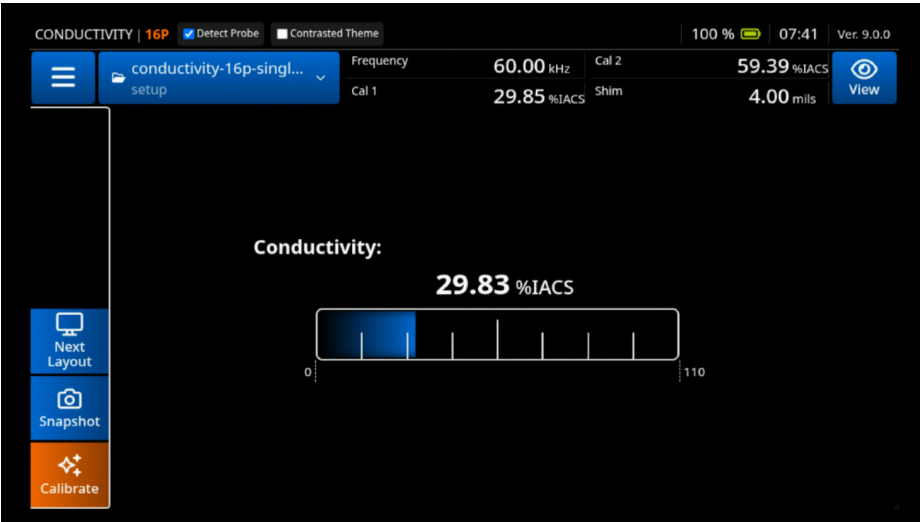

Figure 6-7 Calibrated NORTEC 700X Ready
7. Begin your measurements (See Figure 6-7 on page 211).